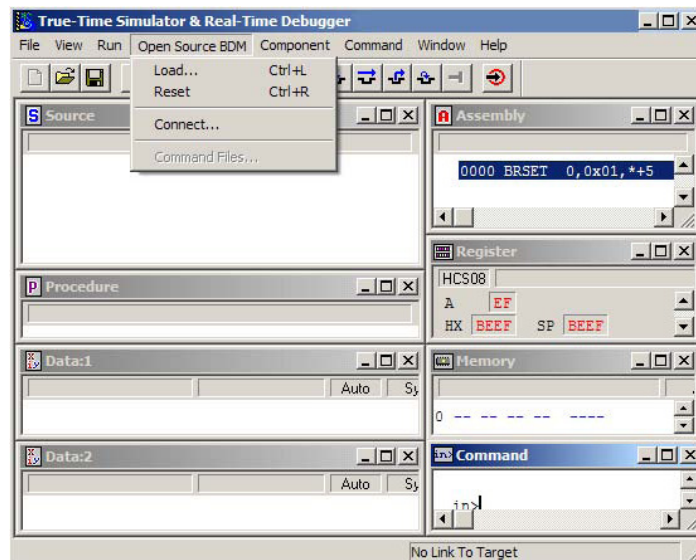

Figure 12. Hiwave program opened and configured
- When the load command is executed, the "Load Executable File" dialog box opens as shown in Figure 12.